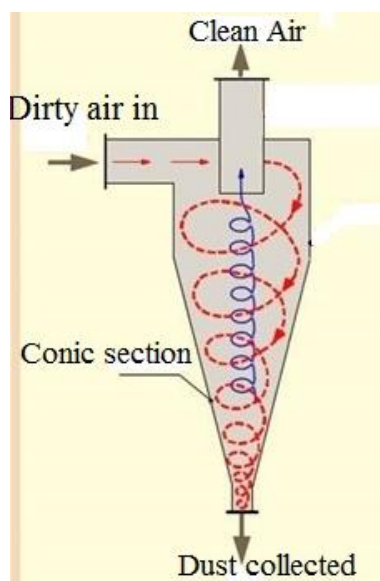

Figure 5-6 Centrifugal collectors air filter
**5-3-3-5 Centrifugal collectors (figure 5-6)**